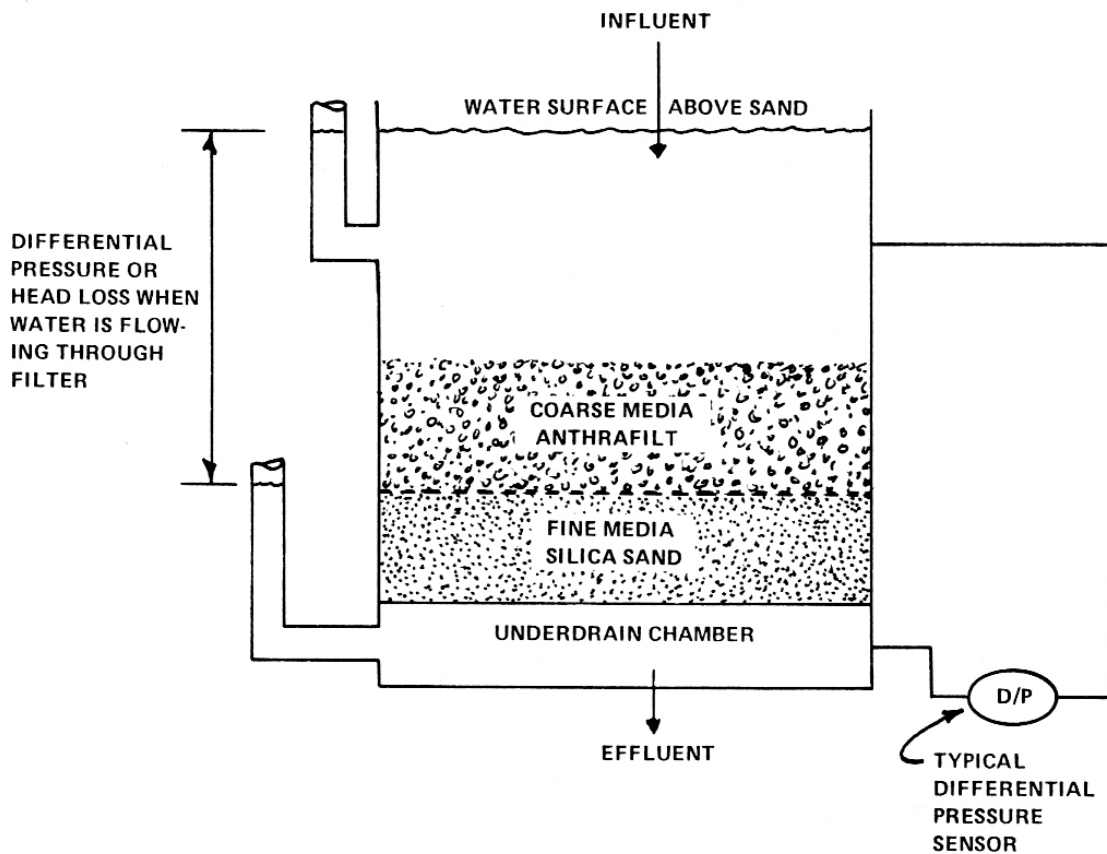

Figure 2.12 Differential Pressure Through a Sand Filter 12
- ✓ Manufacturers' recommendations or operating experience will dictate when head loss through a filter has reached the point that backwashing is required. The head loss is measured as the difference in pressure between the influent and effluent sides of the filter (see Figure 2.12).